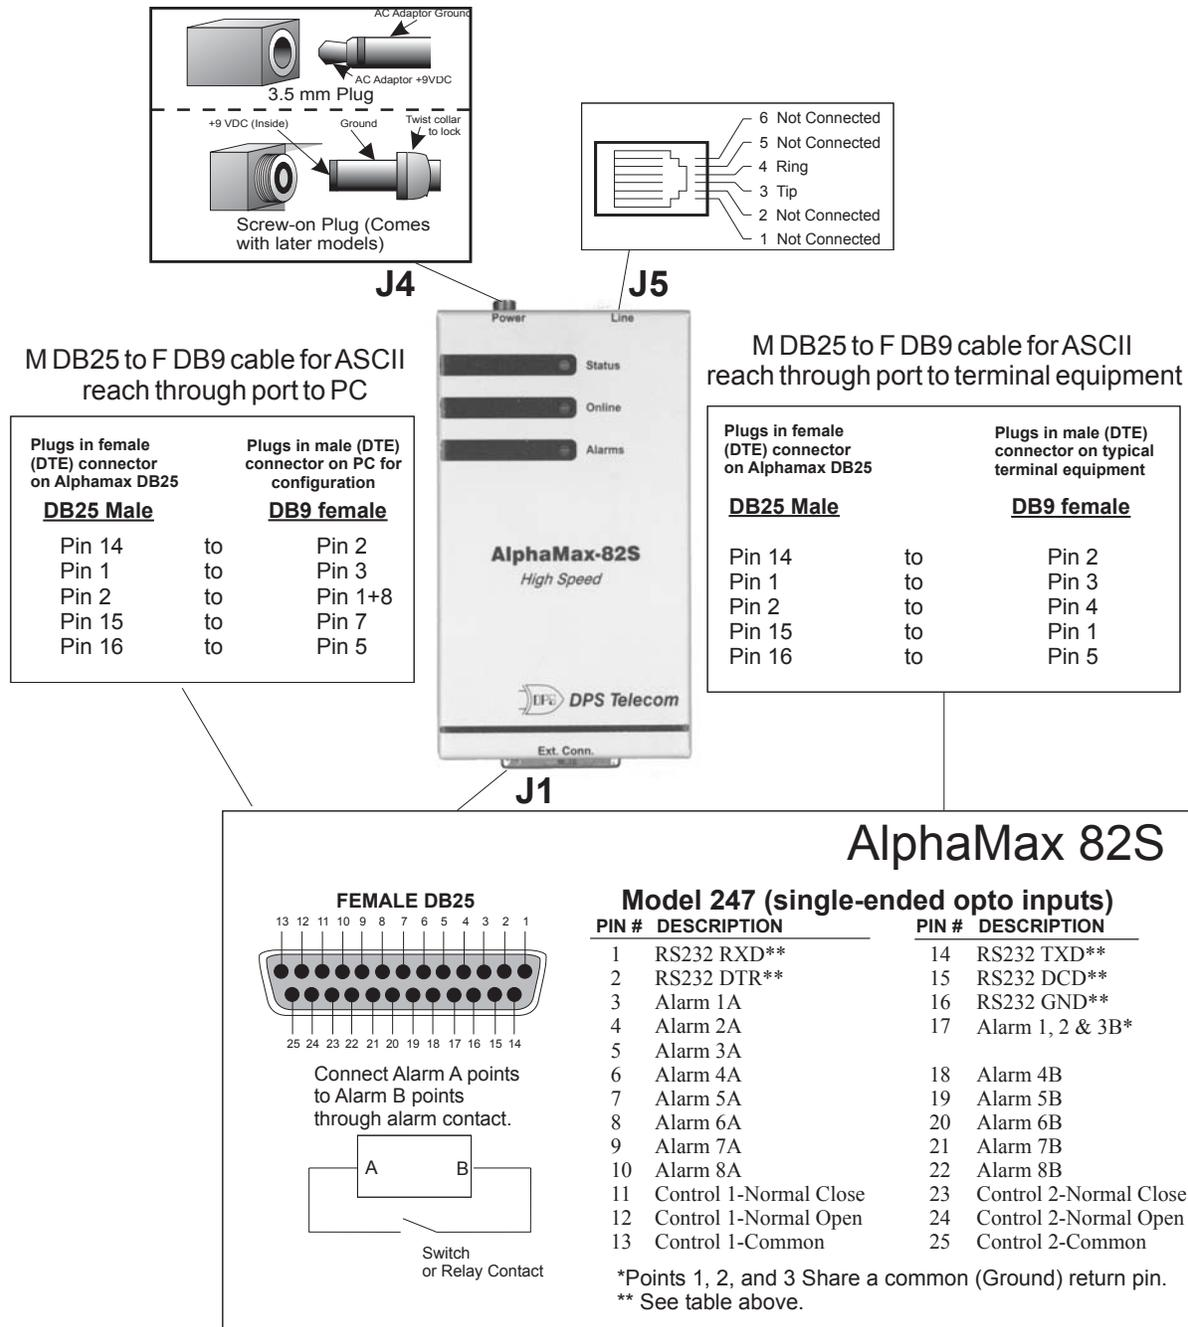

Fig. 5- On the AlphaMax 82S, the DB25 connector provides access for alarm points, control points and the ASCII reach-through port.
5. Connect alarm points and controls to J1 on the AlphaMax. Connect ASCII reach-through port to J1 on the AlphaMax. A DB25 connector and hood are supplied in the AlphaMax cable kit. Refer to Fig. 5.
To operate an alarm, there must be an electrical path from the Alarm (no.)A (input) pin to the Alarm (no.)B (return) pin. Example: (see Fig. 5) To operate alarm point 5, J1-pin 7 (Alarm 5A) connects to one terminal of a (normally-open) switch or relay contact. J1-pin 19 (Alarm 5B) connects to the other terminal of the switch or relay contact. When the switch or relay contact closes, current flows in the circuit and an alarm is sensed.